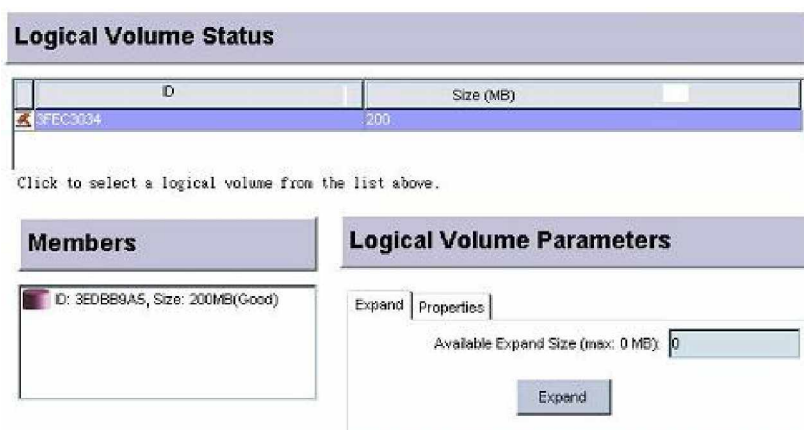

Figure 9-16: Existing Logical Volumes Window
Step 3. Select a configured LV from the Existing Logical Volumes window shown in *Figure 9-16*. As shown below, all the LVs that have been created will appear below the “Logical Volume Status” panel.